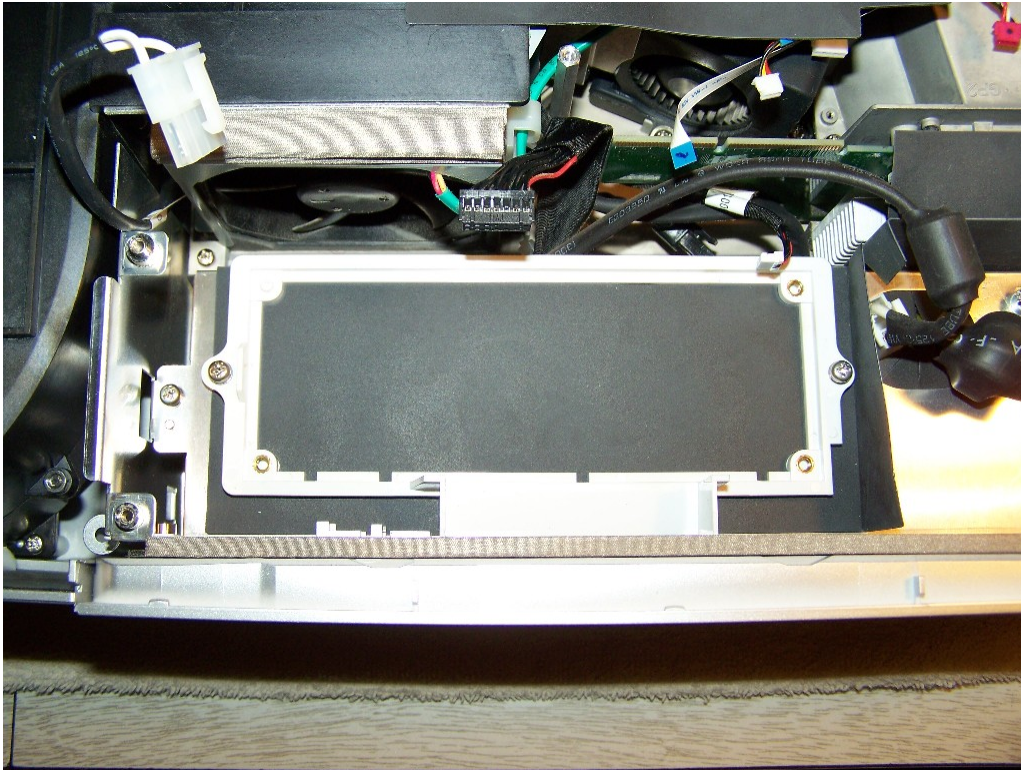

Figure 10 – Ballast Removed
Next, carefully disconnect the three (3) cables connected to the ballast. Loosen the three (3) screws securing the ballast to the chassis. Remove the ballast as shown in figure 10 below.